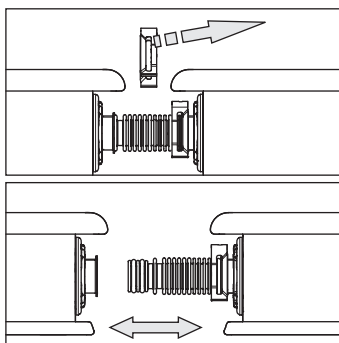

Fig. 3-49 Work step 1
1. Press the retaining clamps out of the engagement positions and pull off (Fig 3-49 and Fig 3-50).